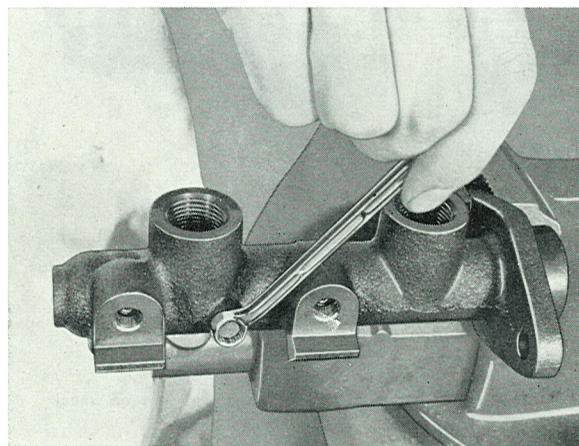

Fig. 5-46. Removing the stop screw
3. Unscrew the stop screw (Fig. 5-46). Remove the circlip from the primary piston with the help of circlip pliers. Remove the pistons. If it is not possible to shake out the secondary piston, it can